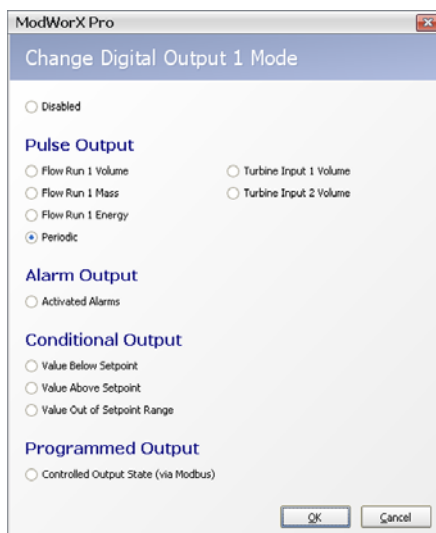

Figure 7.7
- From the Change Digital Output screen, select **Periodic** (Figure 7.7).